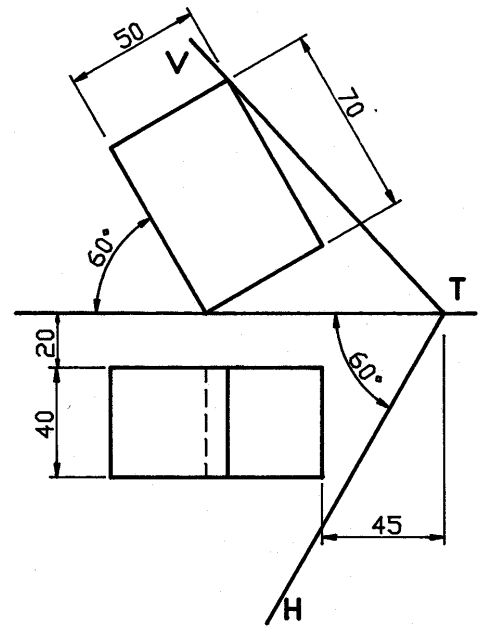

Fig. 5
5. The elevation and plan of a solid cut by an oblique plane VTH are shown in Fig. 5.